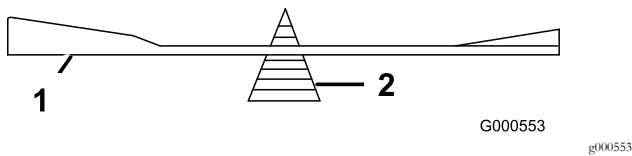

**Figure 60**
1. Use a file to sharpen the cutting edge at both ends of the blade (Figure 60).
**Note:** If the blade is not balanced, file some metal off the end of the sail area only (Figure 60).